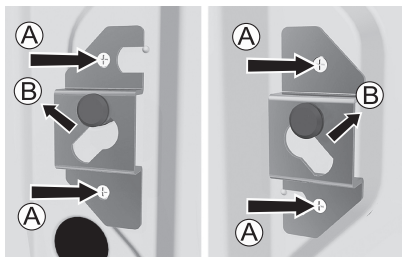

Fig. 1
- Loosen screws A at the rear of the machine (Fig. 1).
- Remove the brackets B (Fig. 1) by sliding them off the shipping rod (Fig. 1).